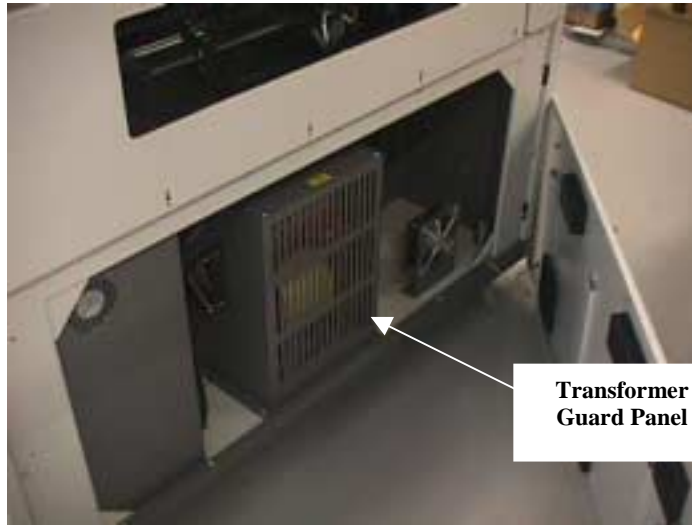

Figure 2.10 Transformer Guard Panel
- The Transformer Guard Panel protects against unauthorized access to the systems Mains Transformer. See fig 2.10.